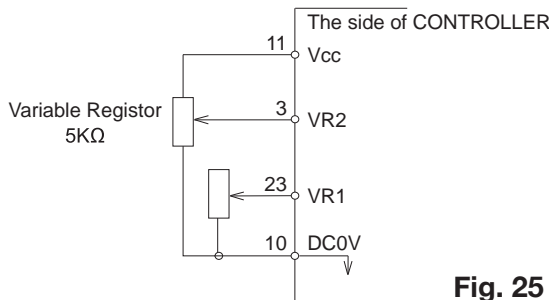
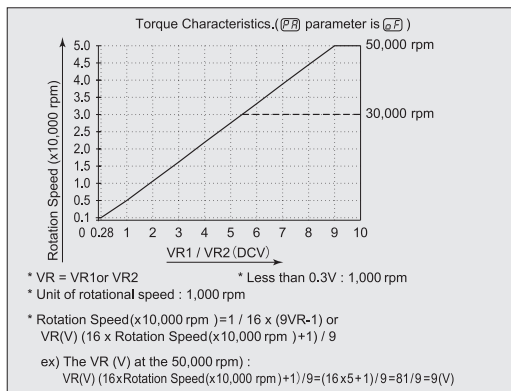

Fig. 25
Fig. 27
Rotation Speed can be selected by, applying analog voltage to VR1 and VR2. Refer to Fig. 25, 26 for connections. Refer to Fig. 27, 28 for the relationship between Motor Speed and " Motor Speed Control Voltage (VR) " .